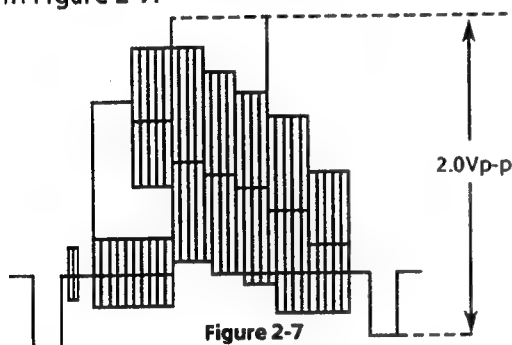

Figure 2-7
2. Feed the colour bar signal to the video input terminal. Observe the voltage the pin 9 of IC201 on the oscilloscope screen, adjust R218 (EE level control) to obtain the value indicated in Figure 2-7.